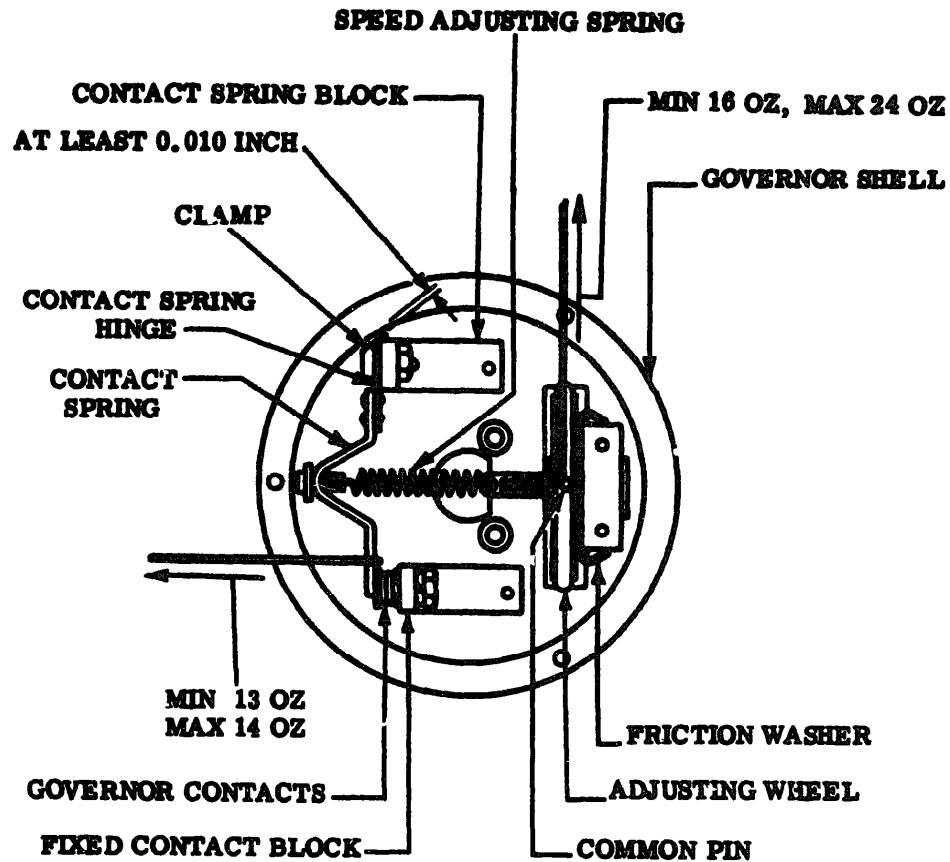

Figure 7 - Center Contact Governor Assembly.
**To Adjust:** Position the contact-spring block by means of its mounting screws. On governors having peripheral or edge-contacting slip rings, note that this gap is free of dirt and metal particles which may tend to short-circuit the rings and the governor contacts. See Figures 7 and 16(B).
**To Adjust:** Remove the friction washer and bend the large projections. (See Figure 7.)
(8) Adjusting Governor Speed: With the motor at rest, turn the adjusting wheel (Figure 7 or 16) as indicated by the letters S and F to decrease or increase the speed respectively. On two-speed governors, the
outer adjusting wheel is for adjusting the high speed, and the inner adjusting wheel is for adjusting the low speed. As the inner adjusting wheel is not very accessible, a screwdriver or other slender object should be used to engage it. Tuning fork TP103628 (87.5 V.P.S.) is recommended for setting the speeds, as explained in the section covering the speed regulation of teletypewriter apparatus. (See Figures 7 and 16.)